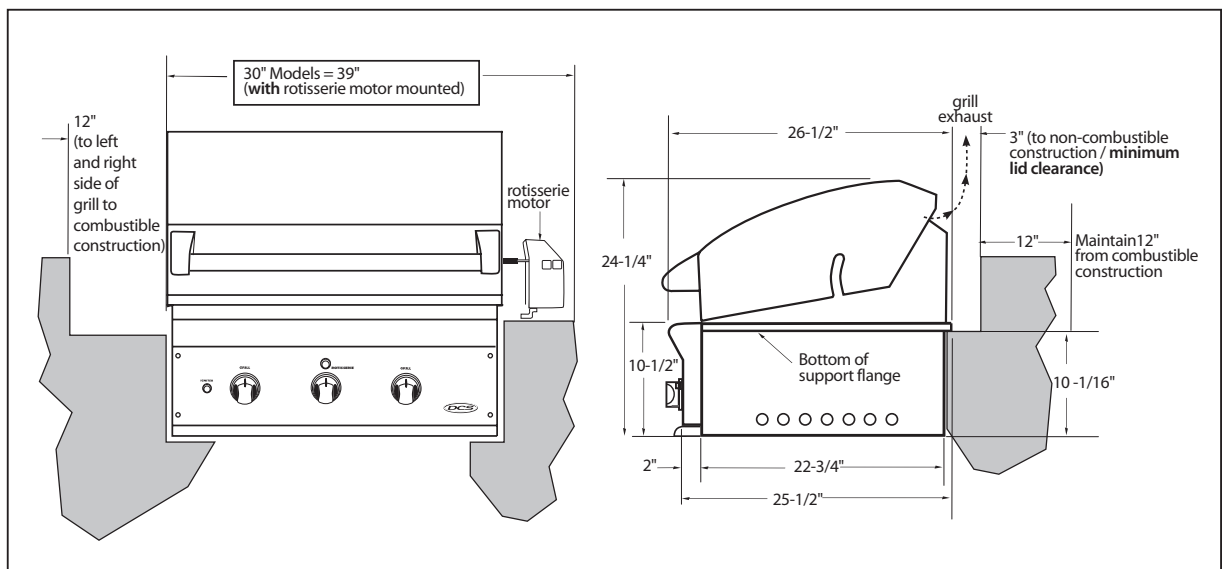

FIG.03
*A Minimum of 12" from the sides and a minimum of 12" from the back must be maintained from the Grill above and below the cooking surface to adjacent vertical combustible construction. (Fig. 03) Do not install under unprotected combustible construction.*
A minimum of 3" clearance from the back of the grill to non-combustible construction is required for the purpose of allowing the lid to open fully. It is desirable to allow at least 6" side clearance to non-combustible construction above the cooking surface for counter space. If you'll be using the rotisserie option, the space is essential for motor and skewer clearance. The Grill can be placed directly adjacent to non-combustible construction below the cooking surface. (Fig. 03)